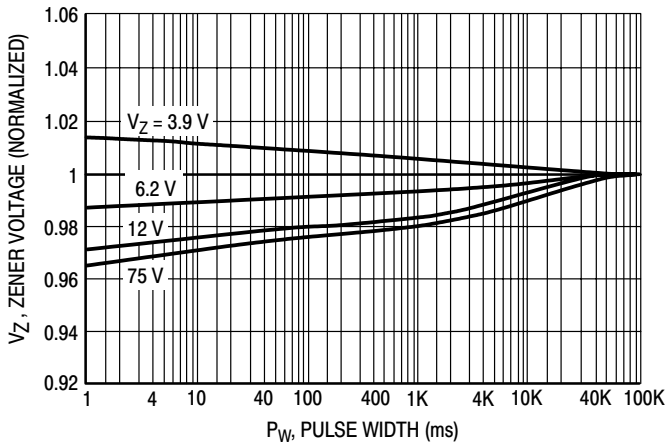
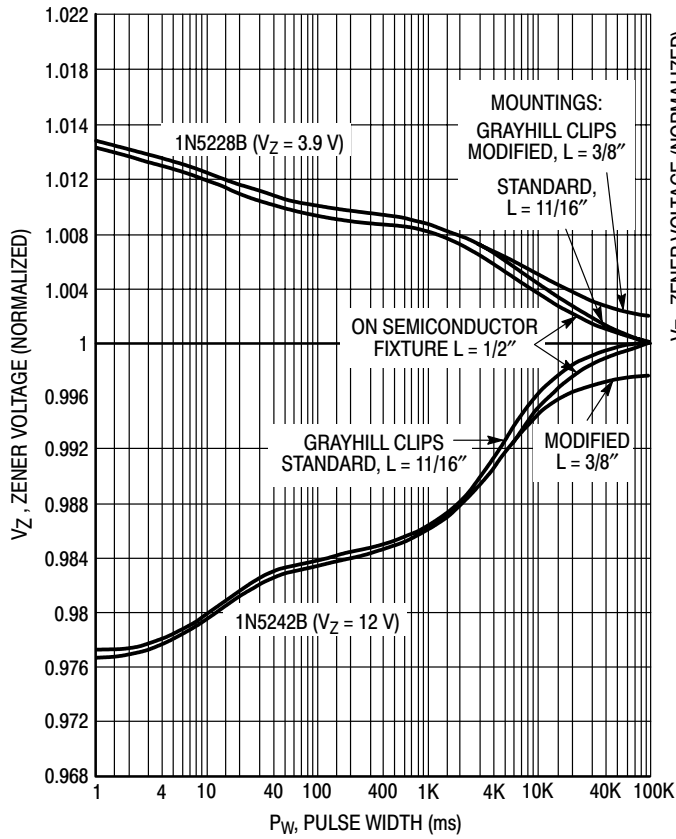
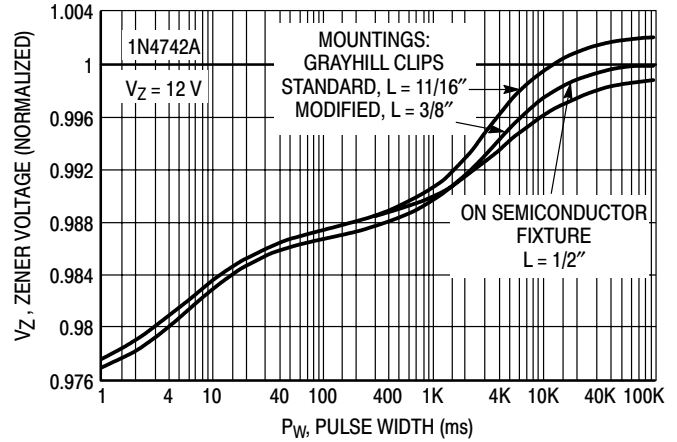

Figure 1. DO-35 (Glass) 500 mW Device
Figure 5. DO-35 (Glass) 500 mW Device
Figure 6. DO-41 (Glass) 1 Watt Device
Normalized  $V_Z$  versus  $I_{ZT}$  pulse width curves are shown in Figure 1 through 6. The type of heatsink used is shown or specified for each device package type. Obviously, it is beyond the scope of this paper to show curves for every voltage rating available for each package type. The object was to have a representative showing of voltages including when available, one diode with a negative temperature coefficient (TC).
For example, refer to Figure 5 which shows normalized  $V_Z$  curves for the axial lead DO-35 glass package. Three mounting methods are shown to show how the mounting effects device heating and thus  $V_Z$ . Curves are shown for a 3.9 V diode (1N5228B) which has a negative TC and a 12 V diode (1N5242B) having a positive TC.
In Figure 5, the two curves generated using the Grayhill mountings are normalized to  $V_Z$  at TE using the ON Semiconductor fixture. There is very little difference in  $V_Z$  at pulse widths up to about 10 seconds and mounting only causes a very small error in  $V_Z$ . The maximum error occurs at TE between mountings and can be excessive if  $V_Z$  is specified at TE and a customer measures  $V_Z$  at some narrow pulse width and does not use a correction factor.
Using the curves of Figure 5,  $V_Z$  can be calculated at any pulse width based upon the value of  $V_Z$  at TE which is represented by 1 on the normalized  $V_Z$  scale. If the 1N5242B diode is specified at 12 V  $\pm$  1.0% at 90 seconds which is at TE,  $V_Z$  at 100 ms using either of the Grayhill clips curves would be 0.984 of the  $V_Z$  value at TE or 1 using the ON Semiconductor fixture curve. If the negative TC diode is specified at 3.9 V  $\pm$  1.0% at TE (90 seconds),  $V_Z$  at 100 ms would be 1.011 of  $V_Z$  at TE (using ON Semiconductor fixture curve) when using the Grayhill Clips curves.
In using the curves of Figure 5 and 6, it should be kept in mind that  $V_Z$  can be different at TE for the three mountings because diode junction temperature can be different for each mounting at TE which is represented by 1 on the  $V_Z$  normalized scale. Therefore, when the correlation of  $V_Z$  between parties is attempted, they must use the same type of mounting or know what the delta  $V_Z$  is between the two mountings involved.
The Grayhill clips curves in Figure 6 are normalized to the ON Semiconductor fixture at TE as in Figure 5. Figures 1 through 4 are normalized to  $V_Z$  at TE for each diode and would be used as Figures 5 and 6.
Measurement accuracy can be affected by test equipment, power dissipation of the D.U.T., ambient temperature and accuracy of the voltage divider if used on the input of the first op-amp (U4). The curves of Figures 1 through 6 are for an ambient temperature of 25°C, at other ambients,  $\theta V_Z$  has to be considered and is shown on the data sheet for the 1N5221B series of diodes.  $\theta V_Z$  is expressed in mV/°C and for the 1N5228B diode is about -2 mV/°C and for the 1N5242B, about 1.6 mV/°C. These values are multiplied by the difference in  $T_A$  from the 25°C value and either
FIGURES 1 thru 8 — Conditions: Single Pulse,  $T_A = 25^\circ\text{C}$ ,  $V_Z I_{ZT} = 1/4 P_D$  (Max) Each device normalized to  $V_Z$  at TE.